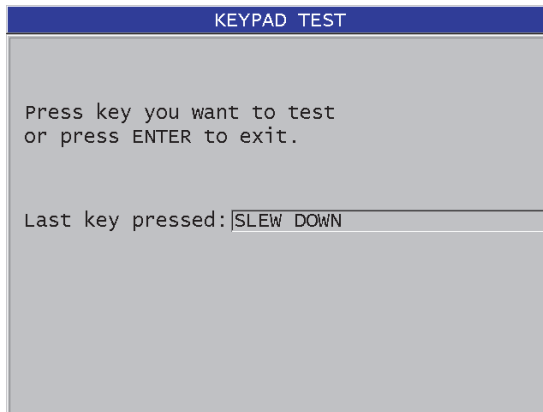

Figure 15-2 The KEYPAD TEST screen
4. When **KEYPAD TEST** is selected, in the **KEYPAD TEST** screen (see Figure 15-2 on page 290):